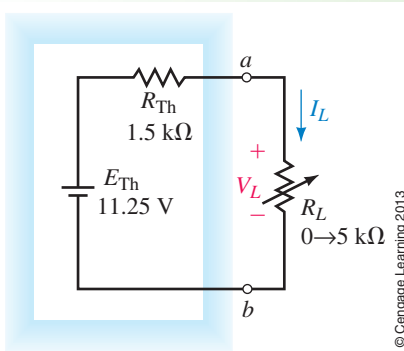

FIGURE 9-51
- a. In order to determine the conditions for maximum power transfer, it is first necessary to determine the equivalent circuit external to the load. We may determine either the Thévenin equivalent circuit or the Norton equivalent circuit. This circuit was analyzed in Example 9-4 using Thévenin's theorem, and we determined the equivalent circuit to be as shown in Figure 9-51.